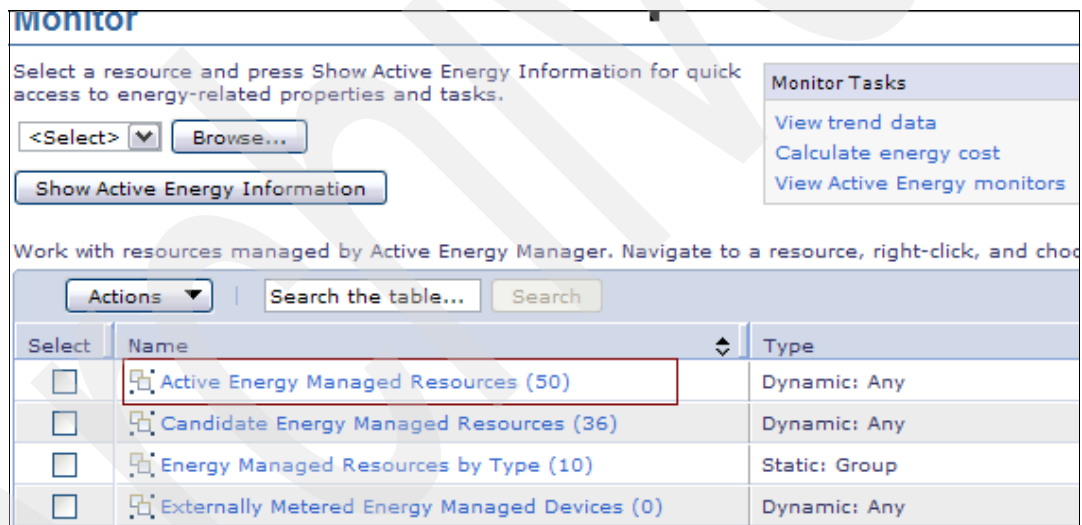

Figure 5-30 Active Energy Managed Resources
3. From the AEM GUI, select **Active Energy Managed Resources**, which shows the list of the systems that the Systems Director can manage, as shown in Figure 5-30.